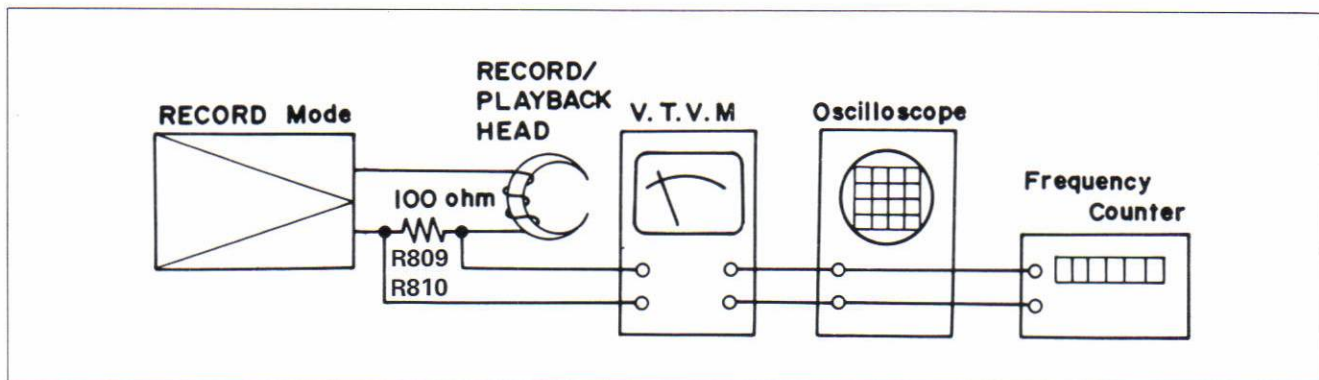

Figure 6
■ RECORD AMPLIFIER BIAS OSCILLATOR ADJUSTMENT (Refer to Figure 6)
1. As shown in figure 6, connect the VTVM across the resistors of 100 ohm (R809, R810).